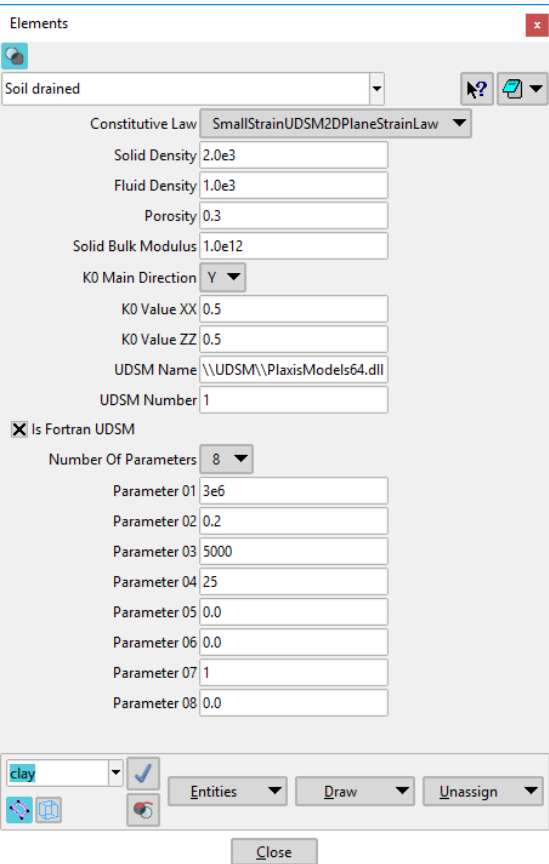

Figure 8.4: Clay parameters tutorial 1
- 11 In the elements window which appeared, from the top drop-down menu, select "soil-drained". And fill in the values as shown in Figure 8.4. For the parameter, "UDSM